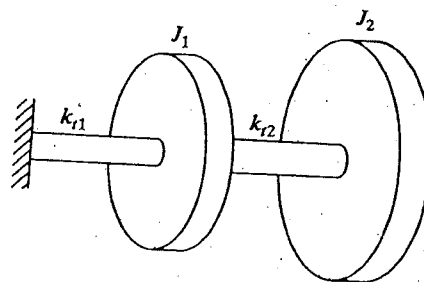

FIGURE 5.28
5.28 Determine the natural frequencies and normal modes of the torsional system shown in Fig. 5.28 for $k_{r2} = 2k_{r1}$ and $J_2 = 2J_1$.